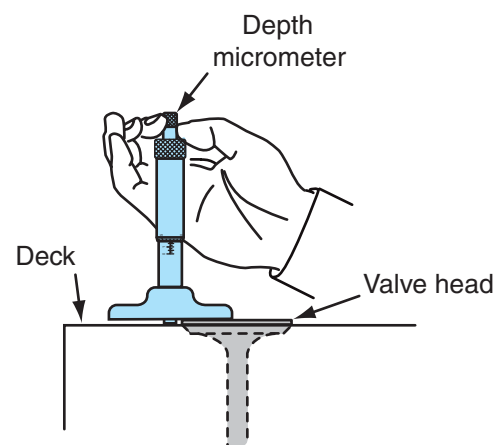

Figure 5-12 Measuring valve protrusion with a depth micrometer.
6. Check valve spring operation with the valve installed in the cylinder head. Remember that as the cylinder head valve seat material is ground away, the spring operating height is lengthened, reducing spring tension. Valve protrusion and recession must be checked to specification as shown in **Figure 5-12**.